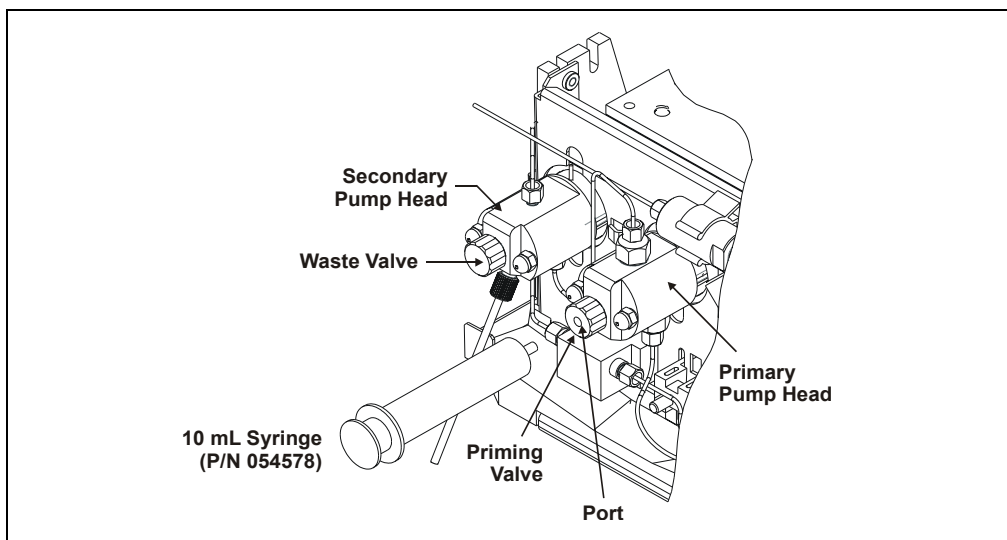

Figure B-4. Priming the Pump
3. Connect a 10 mL syringe (P/N 054578) to the luer port in the priming valve on the primary pump head (see Figure B-4).
4. Open the waste valve on the secondary pump head (see Figure B-4) by turning the knob one-quarter to one-half turn counterclockwise. Opening the valve directs the eluent flow path to waste and eliminates backpressure.
3. Check that the priming valve on the primary pump head is closed (see Figure B-4).
1. Connect a 10 mL syringe (P/N 054578) filled with isopropyl alcohol (IPA) to the luer port in the primary pump head (see Figure B-4).
2. Open the waste valve on the secondary pump head (see Figure B-4) by turning the knob one-quarter to one-half turn counterclockwise.
4. Open the priming valve on the primary pump head (see Figure B-4) by turning it one-quarter to one-half turn counterclockwise.